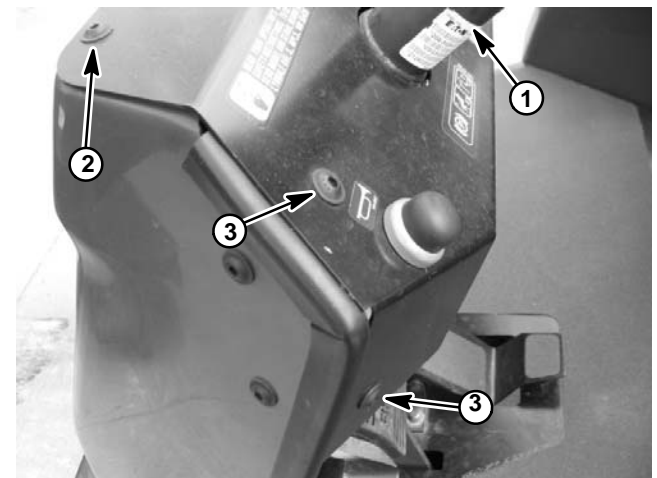

Figure 47
5. Remove fasteners that secure dash panel to front hood (Fig. 47). Front edge of panel is secured with four (4) screws and weldnuts. Sides of panel are fastened with four (4) screws and flange nuts. Carefully slide dash panel up steering column to allow access to steering control valve.
8. Loosen and remove four (4) cap screws that secure steering column and steering control valve to machine frame.
4. Position dash panel to front hood and secure with fasteners (Fig. 47).